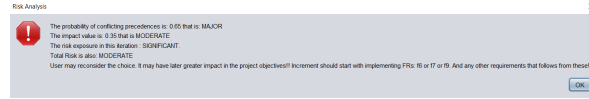

Figure 11: Qualitative Risk Analysis
- STEP-9.* Then click on the "View Report" button (refer to to portion marked as **F** in Figure 7) to view the qualitative risk analysis and risk reduction strategies (refer to Figure 11).